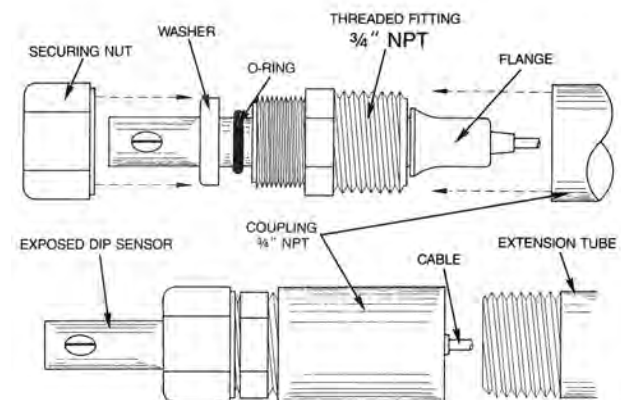

**FIG. 2-2
STEP 1 Verify that the Cell's Fitting assembly is properly assembled as shown in Fig. 2-2.
STEP 2 Insert the Cell Fitting assembly into the "T" fitting as shown in Fig 2-2 and tightly secure.